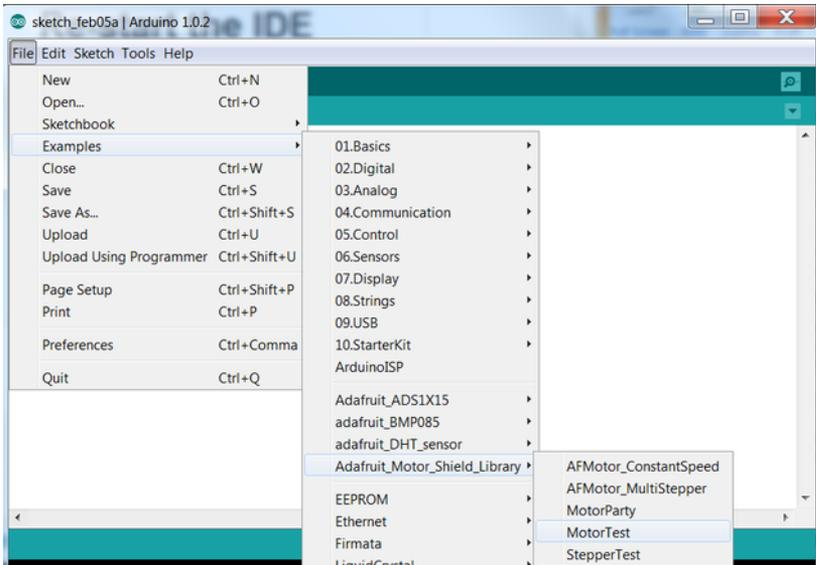

Figure 4-9. When you restart the IDE, your library should be listed
4. Restart the Arduino IDE and verify that the library appears in the File→Examples menu (Figure 4-9). Load one of the library examples to test, if there is one (note that some examples may require other libraries).